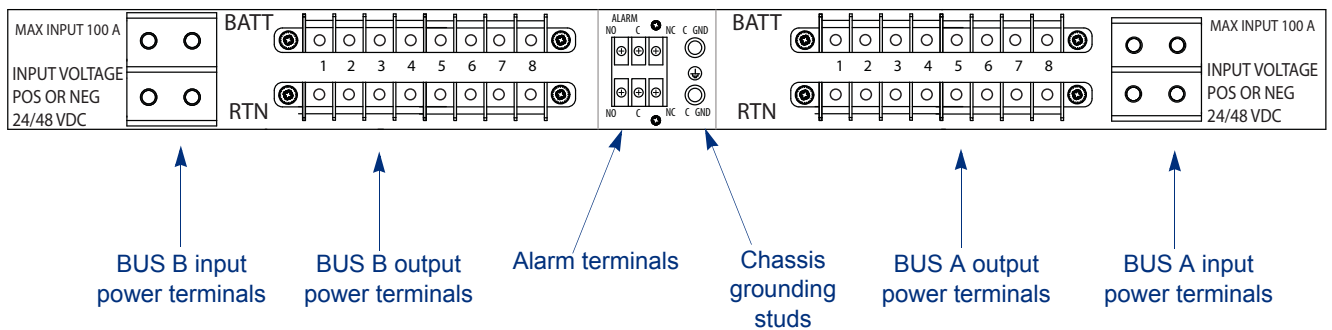
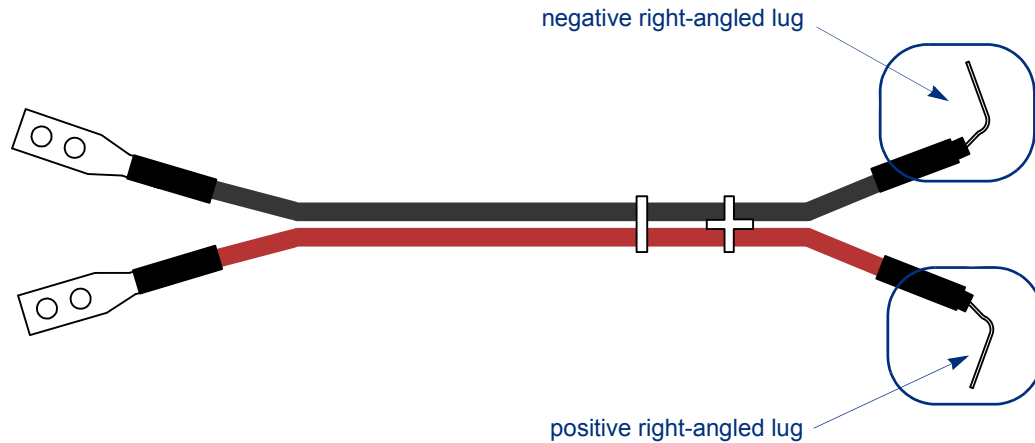

Figure 27. Circuit breaker, rear view
Figure 35. #4 AWG wire set, right-angled lugs
3. From the rear of the circuit breaker, remove the plastic guard and rear covers from the output and input power terminal blocks (Figure 27).
4. From the rear of the circuit breaker, use a 7/16 socket wrench to remove the nuts with captive lock washers from the both sides of the input power terminal terminal blocks (Figure 27).
5. Unscrew and remove the terminal screws from the output power terminals (Figure 27). Use caution to not lose the screws.
13. Replace the plastic guard on the output terminal block of the circuit breaker (Figure 27).
7. Using one set of the other end of the #4 AWG wiring pairs, place the negative (black) right-angled lug (Figure 35) over the top pair of input DC connectors labeled BATT on BUS-A of the circuit breaker (Figure 27).
8. From the same set of #4 AWG wires, place the positive (red) right-angled lug (Figure 35) over the bottom pair of input DC connectors labeled RTN on BUS-A of the circuit breaker (Figure 27).
9. Using the second set of the other end of the #4 AWG wiring pairs, place the negative (black) right-angled lug over the top pair of input DC connectors labeled BATT on BUS-B of the circuit breaker (Figure 27).
10. From the same set of #4 AWG wires, place the positive (red) right-angled lug over the bottom pair of input DC connectors labeled RTN on BUS-B of the circuit breaker (Figure 27).
13. Replace the rear covers to the input terminal blocks of BUS-A and BUS-B on the circuit breaker (Figure 27).